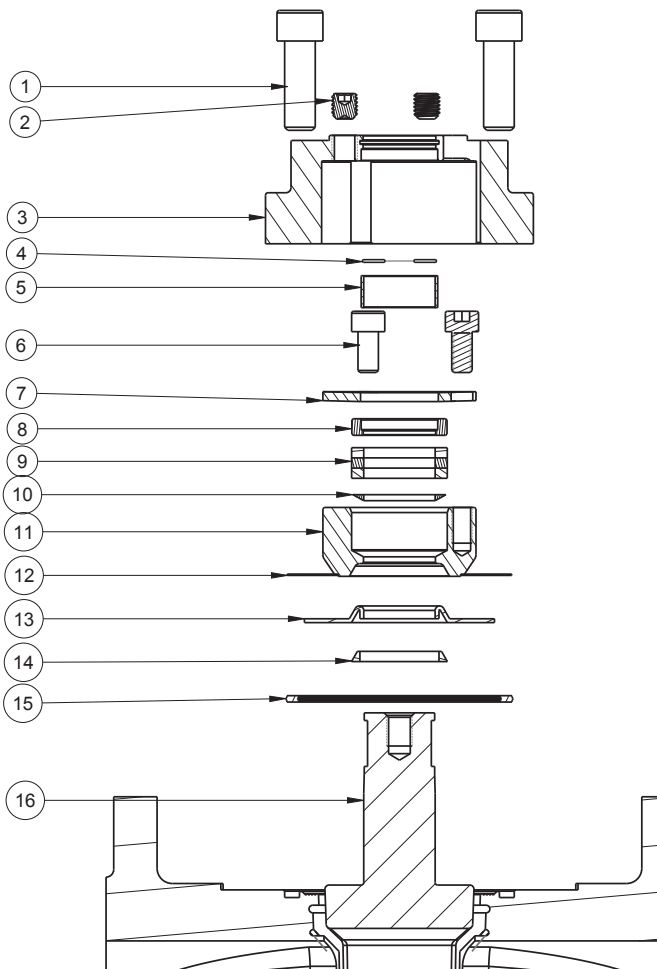

Fig. 12
10. Install Seal Kit (Kit B) (fig. 12)
- a. Put cover seal (15) in the body groove.
- b. Put wedge-ring (14) on plug shoulder.
- d. Pull over carefully formed diaphragm (13) on plug and press it down to plug shoulder. Remove assembly cone.
- e. Put stuffing box (11) with welded steel diaphragm (12) on formed PTFE diaphragm.
- f. Insert PEEK ring (10) into stuffing box, with tapered edge facing down as shown in Fig. 12
- g. Insert packing (9) [PTFE as standard and graphite as fire safe] into the stuffing box. Take care not to damage the packing when placing over the stem.
- h. Place the follower (8) onto the packing.
- i. Align the spring washer (7) onto the follower, aligning the through holes with the tapped holes in the stuffing box.
- j. Put the cap screws (6) through the holes in the spring washer and tighten them into the stuffing box to the torques listed in Table 2.
- k. Put the stem bearing (5) and ground washer (4) back onto the stem.
- a. Insert the adjusting screws into the cover holes (2).
- b. Put cover (3) on the top seal group ensuring alignment of plug adjustment bolts with the holes in the cover.
- c. Tighten the cover bolts (1) to proper torque spec (Table 3)